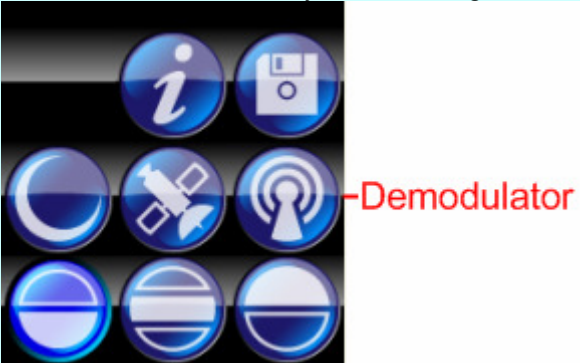

Fig 21 Verify DPx Demodulator Button
Click on the Demodulator Button on the Verify DPx as in Fig 21.
9.1	<p>Obtain Licence code from Veripos Helpdesk</p> <p>You will need the LD3 serial number which can be found on the front of the LD3 or in the Demodulator \ Info Screen as seen in fig 21</p>  <p>The screenshot shows the 'Demodulator Information' screen. On the left, there is a small status window with various indicators. The main area displays the following information:</p> <ul style="list-style-type: none"> Name: LBR1 Full ID: SN08391145066R (The '145066R' part is highlighted with a red box, and a red arrow points to it with the label 'LD3 Serial Number') Decoder: 1.00-dev081031 Veripos Firmware: 1.0.1nonstandard Bootloader: 1.5 GNSS Firmware: 1.0.1 <p>At the bottom right of the screen, there are three circular icons representing traffic lights.</p> <p>Figure 21 Demodulator – Info Screen</p> <p>Note: The easiest method to entering the licence is to receive a Txt file from Veripos helpdesk and copy it onto the DPX system via a USB Flash drive</p>